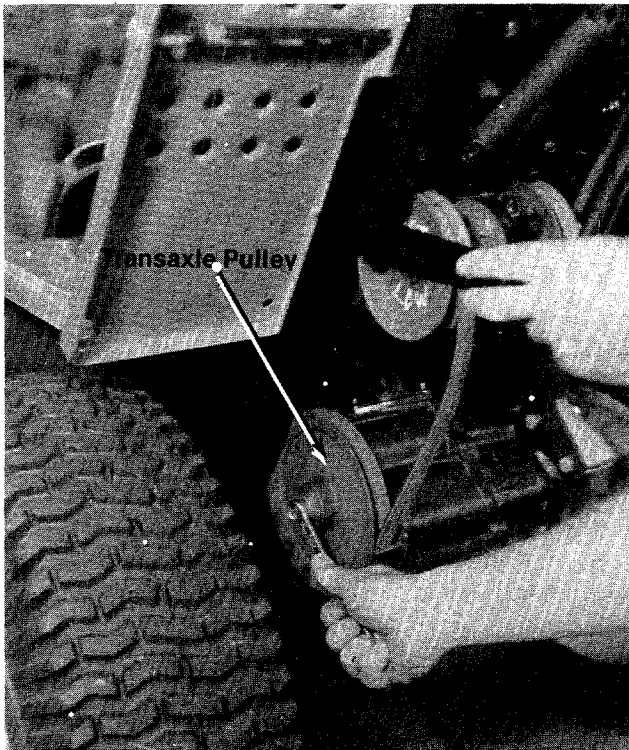

FIGURE 24
4. Remove the two belt guard pins on the pulley assembly. (See figure 24.)